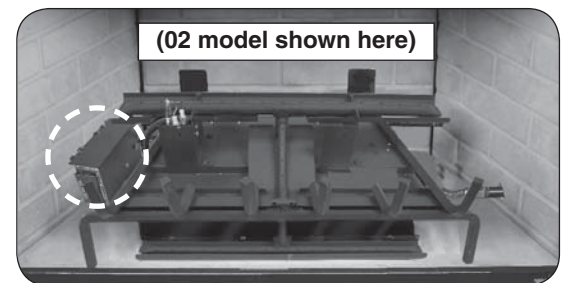
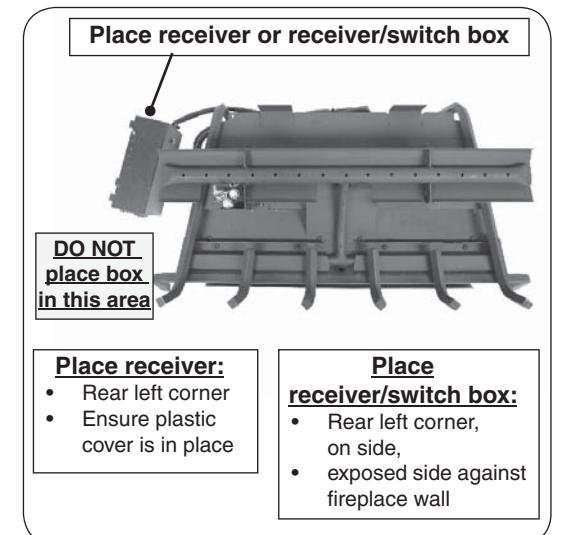

Fig. 17-2 Place receiver/switch box
Fig. 17-4 Proper receiver/box placement
3. Place the burner system in the fireplace. Center the burner from left to right in the fireplace. (Reference Fig. 17-2 for orientation.)
Place the plastic cover over the receiver. Then place on its side, at the rear left corner of the fireplace. Place as far from the burner system as possible. See Fig. 17-2 & Fig. 17-4.
Place on its side, at the rear left corner of the fireplace. It should rest with its bottom as near as possible and facing the fireplace wall. It must not be placed directly next to the burner pan area to avoid damage to the batteries (and remote receiver - 02 models). See Fig. 17-2 & Fig. 17-4.